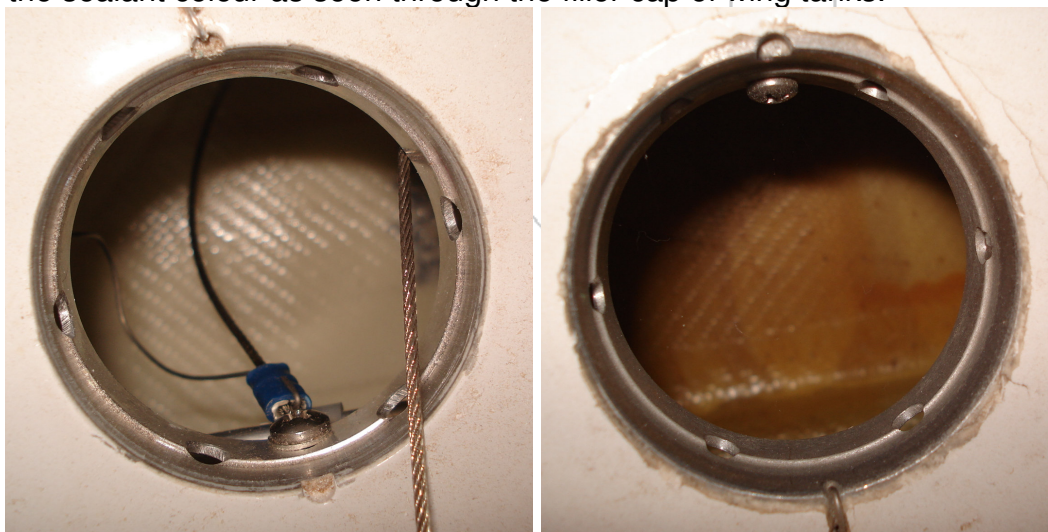

Figure 4 – Fuel Tank Sealant Colours (White on Left)
- **Important Note For Jabiru Aircraft:** Only aircraft with the white coloured fuel tank sealant can use fuel containing alcohol. Earlier tanks used a different sealant which was caramel coloured – this sealant is soluble in alcohol and must not be used with an alcohol blend fuel. Aircraft fuel tanks with the caramel-coloured sealant may be re-sealed with the white sealant – contact Jabiru Aircraft or our local representative for details. Figure 4 below shows the sealant colour as seen through the filler cap of wing tanks.